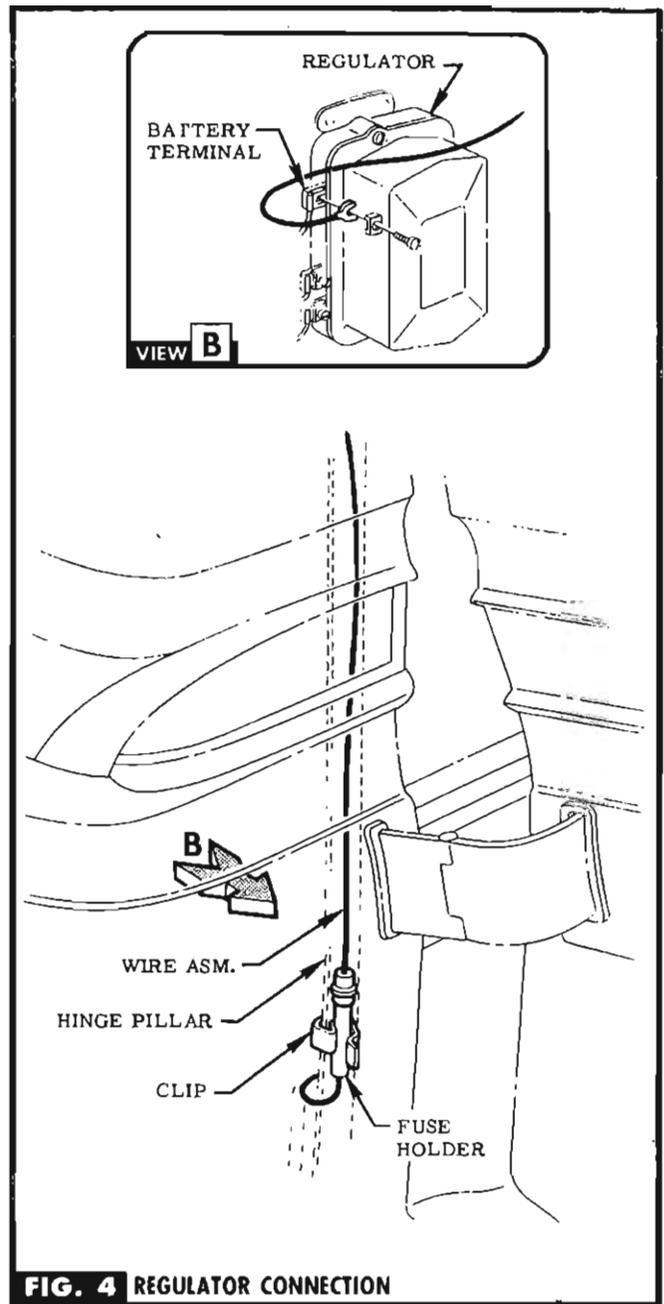

FIG. 4 REGULATOR CONNECTION
STEP 12 ROUTE TERMINAL END OF WIRE ASM. TO FRONT OF REGULATOR, CLIP FUSE HOLDER TO HINGE PILLAR & CONNECT WIRE TO BATTERY TERMINAL ON REGULATOR. SEE FIG. 4 & VIEW B, & ALSO CLIP WIRE TO HINGE PILLAR. SEE FIG. 1.